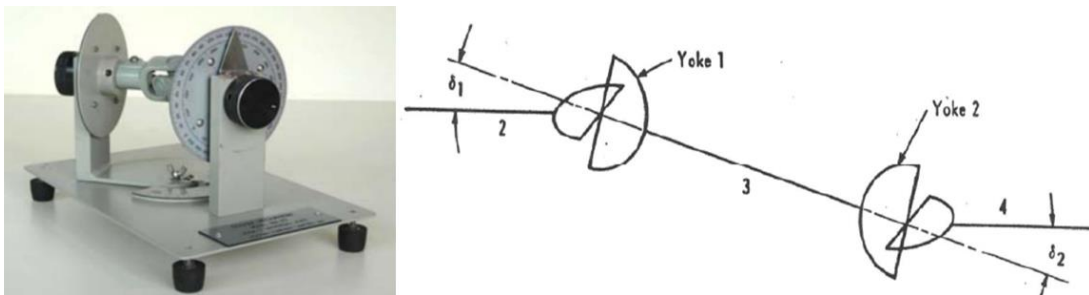

Figure 9.3-1: Hooke's universal joint: apparatus and schematic.
- Lab model Hooke's universal joint (Figure 9.3-1).